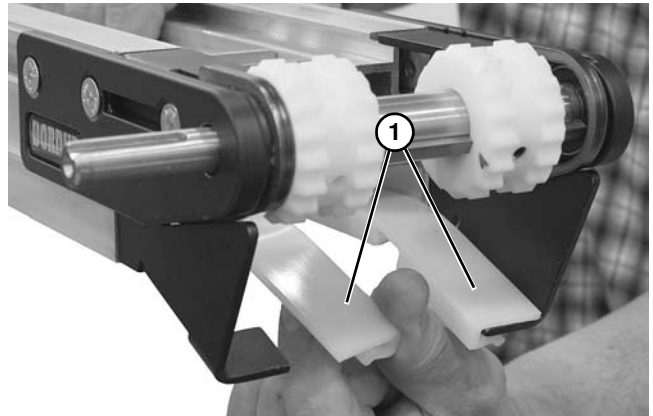

Figure 42
3. Remove lower wear strips (**Figure 42, item 1**) from end drive.